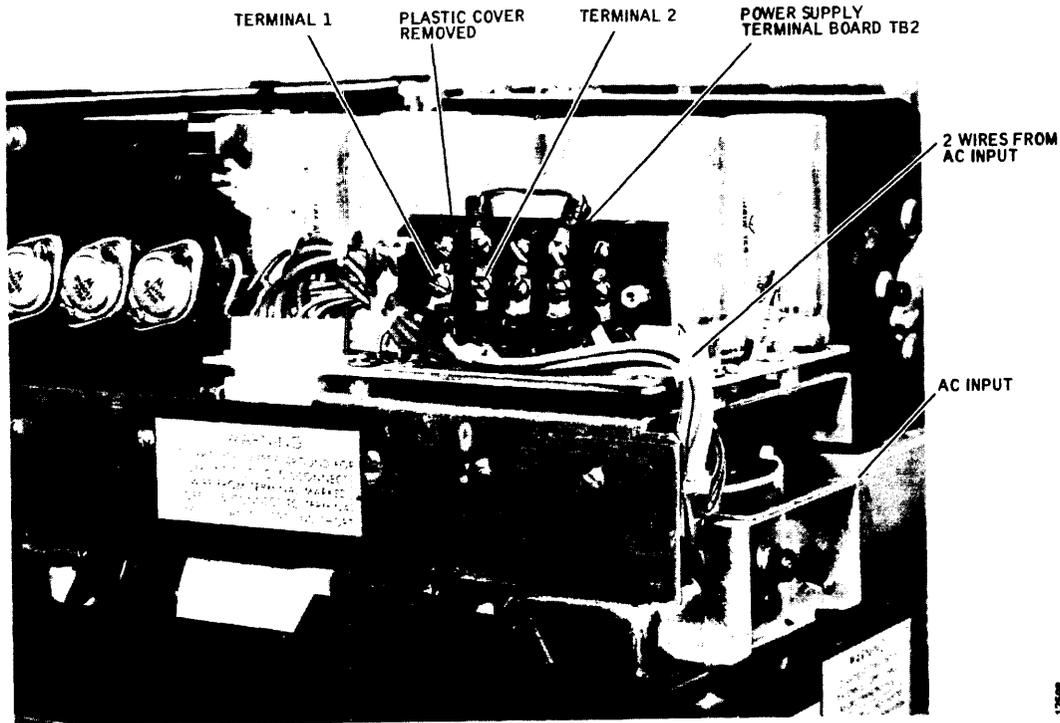

Figure 3-13. Power Supply with Terminal Board TB2 Location
2. Locate the two grey wires coming from the Ac Input Control Assembly to terminals 1 and 2 (Figure 3-13) at the bottom of power supply terminal board TB2. Tag and disconnect these two wires from the terminal board. Trace the wires back toward the Ac Input Control Assembly, clipping only those plastic tie wraps necessary to free the two wires from the power supply assembly. This will require unlatching and swinging the assembly to its open position.